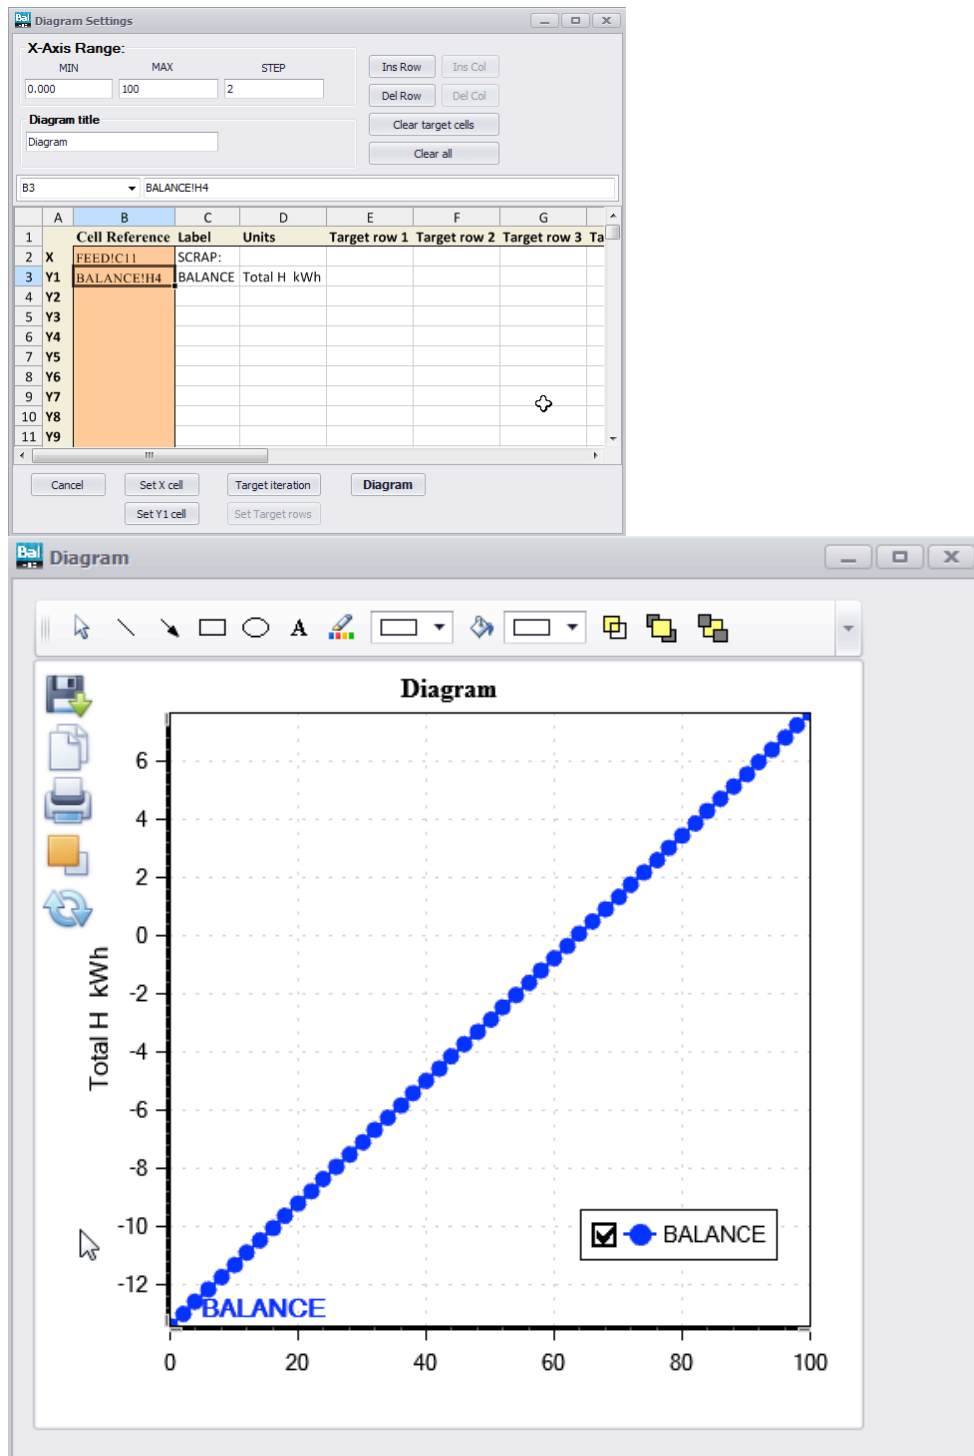

Fig. 8. Simple heat balance diagram.
5. Fill the Diagram Settings as shown in **Fig. 8**. You must specify the MIN, MAX, and STEP values for the X-axis. You can also specify the cell references, labels and units manually in this form.
6. Press **Diagram** to create the tabular data for the diagram and **Diagram** once again to see the final diagram, **Fig. 8**.
In the diagram shown in **Fig. 8**, you can see that roughly 64 kg/h of scrap is needed to adjust the heat balance to zero. Note that the units in the diagram are kg/h and kW.